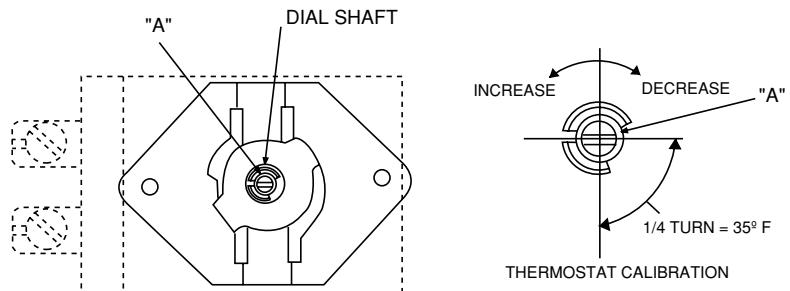

Fig. 6
4. Pull dial straight off dial shaft without turning (Fig. 6).
5. Turn screw "A" clockwise to decrease temperature and counterclockwise to increase temperature (Fig. 6); $\frac{1}{4}$ turn of Screw "A" represents a temperature shift of 35°F.